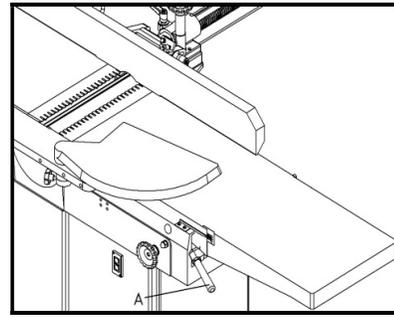

Fig. 7
2. Pull hand lever (A) to lower infeed table as shown in Fig. 7